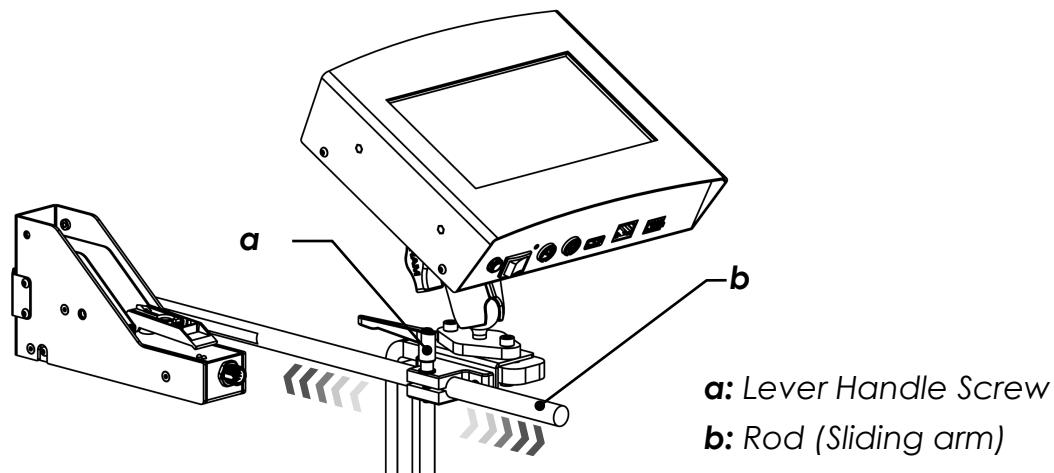

Figure 27
- Loosen the clamp screw to free the slider clamp (see Figure 27).